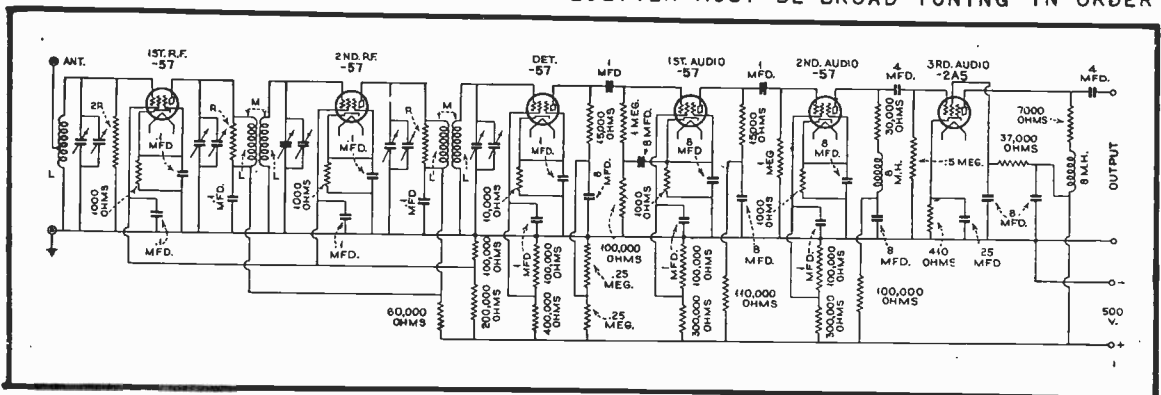

FIG. 7
ANOTHER INTERESTING TELEVISION RECEIVER CIRCUIT IS SHOWN IN FIG. 7. HERE TYPE 57 TUBES ARE USED IN THE TWO R.F. STAGES, AS WELL AS IN THE DETECTOR, FIRST A.F. AND SECOND A.F. STAGES, WHILE A 2A5 IS EMPLOYED IN THE FINAL OR OUTPUT STAGE.
ALSO NOTICE IN THE CIRCUIT OF FIG.7 THAT NO R.F. FILTER IS USED IN THE OUTPUT OF THE DETECTOR. THIS HAS BEEN PURPOSELY OMITTED SO THAT THERE WILL BE NO POSSIBILITY OF BY-PASSING ANY OF THE HIGHER AUDIO FREQUENCIES TO GROUND AND THEREBY REDUCE THE CLARITY OF THE PICTURE.
8. - WHAT IS THE REASON FOR USING THE RESISTOR R IN THE CIRCUIT OF FIG.7 IN THIS LESSON?